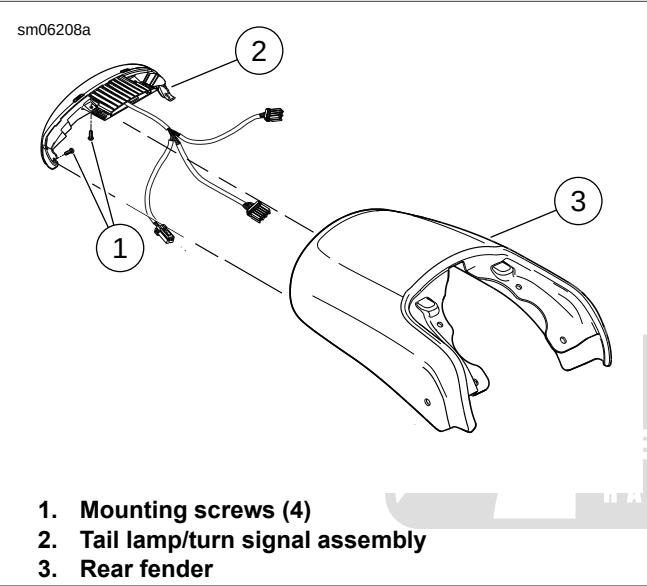

Figure 7-18. Tail Lamp/Turn Signal Assembly: VRSCF
2. See Figure 7-18. Remove the four screws (1) securing the tail lamp (2) to the rear fender (3) and lift tail lamp assembly away from fender.
1. See Figure 7-18. Install tail lamp assembly onto rear fender with screws. Tighten to 1.5-2.0 Nm (13-18 in-lbs).